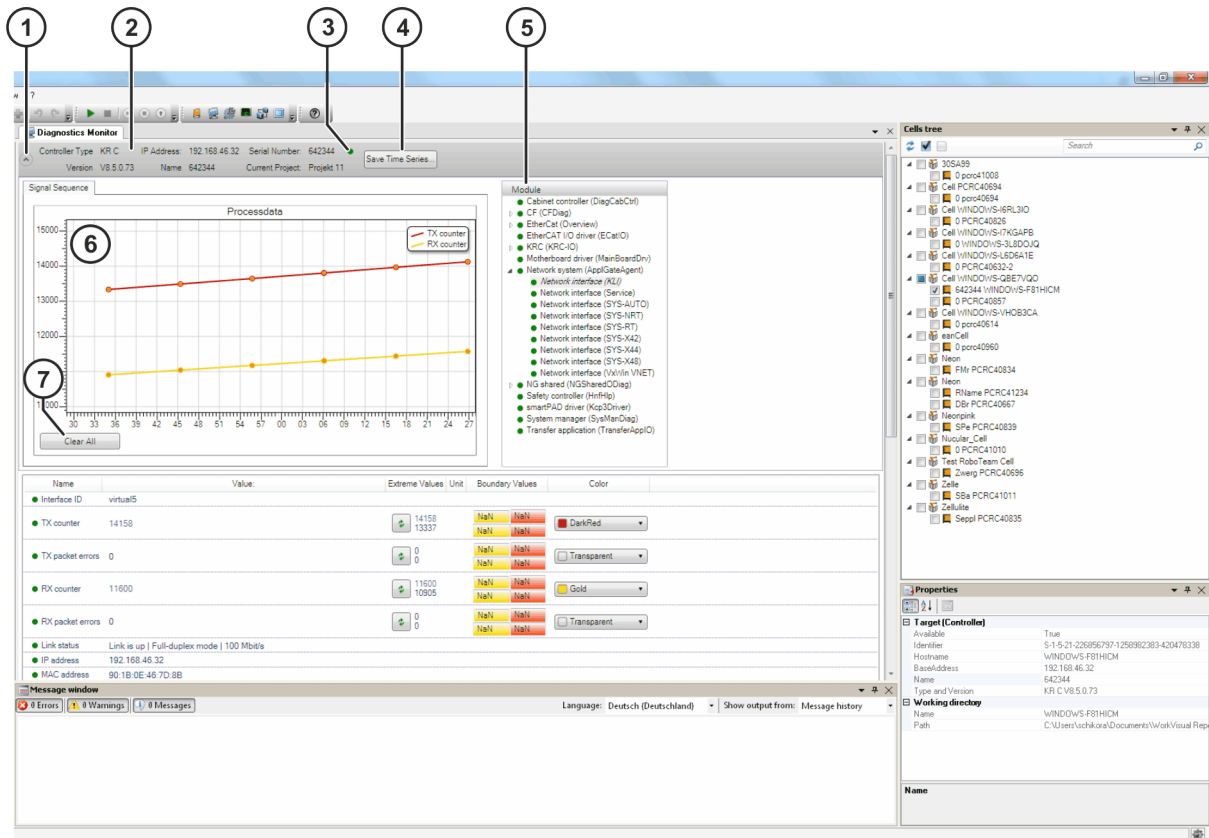

Fig. 15-12: Diagnostic monitor
4. Select a module on the right side under **Module**. Diagnostic data are displayed for the selected module (>>> Fig. 15-12).